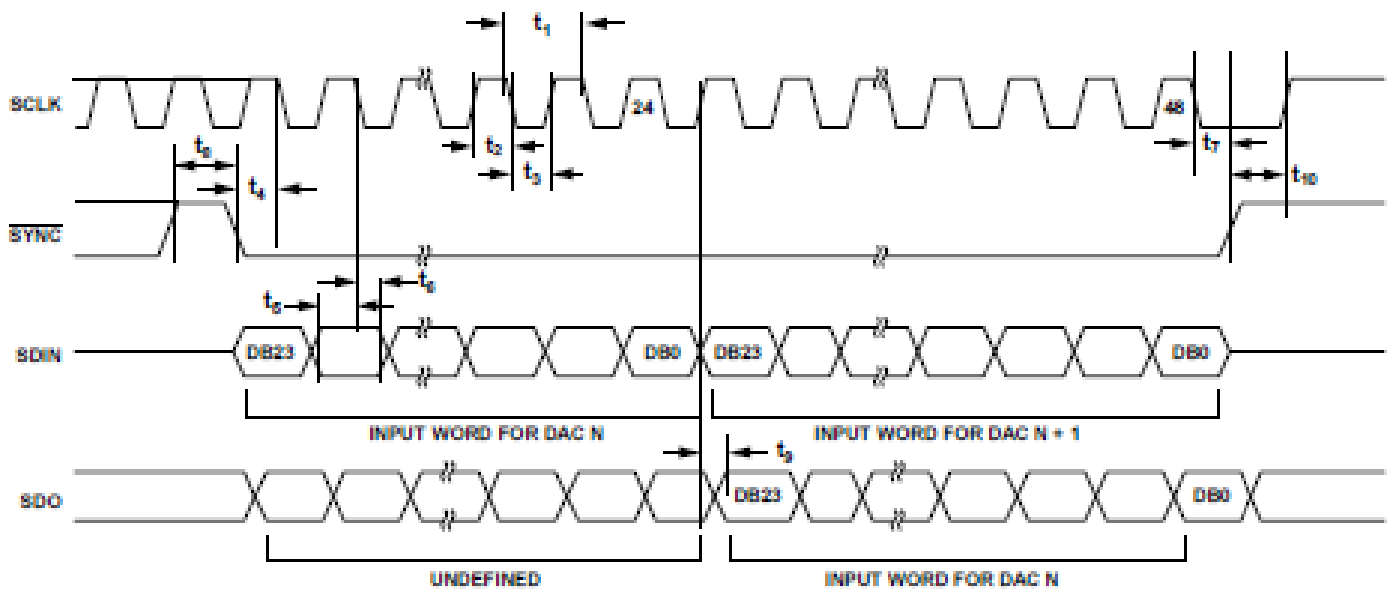
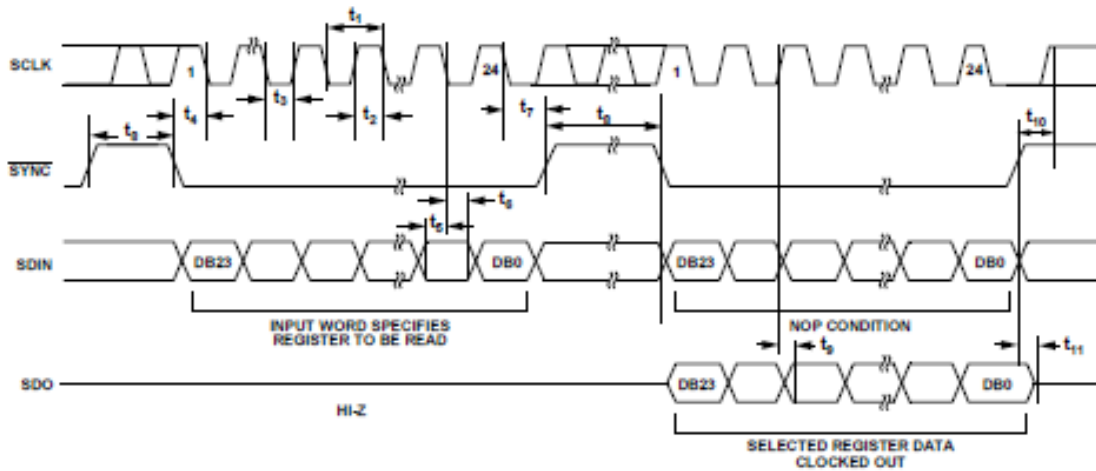

FIGURE 7. Daisy-Chain Timing Diagram.
FIGURE 8. Readback Timing Diagram.
- 20/ All input signals are specified with $t_R = t_F = 1\text{ ns/V}$ (10% to 90% of V_{DD}) and timed from a voltage level of $(V_{IL} + V_{IH})/2$. See Figure 7 and Figure 8. $V_{DD} = 2.7\text{ V to }5.5\text{ V}$, $1.62\text{ V} \leq V_{LOGIC} \leq 5.5\text{ V}$; $V_{REF} = 2.5\text{ V}$. All specifications T_{MIN} to T_{MAX} , unless otherwise noted. $V_{DD} = 2.7\text{ V to }5.5\text{ V}$.